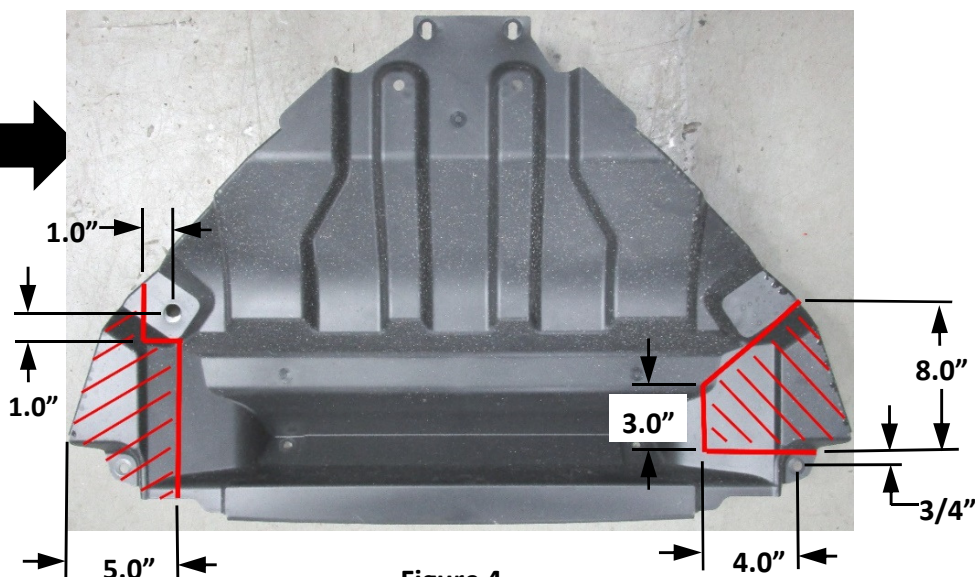

Figure 4.
7. **Trim Splash Guard** - measure, mark, and trim the plastic splash guard. See Figure 4.
8. **Reinstall Splash Guard** – If trimmed, reinstall the splash guard using (6) of original mounting hardware.